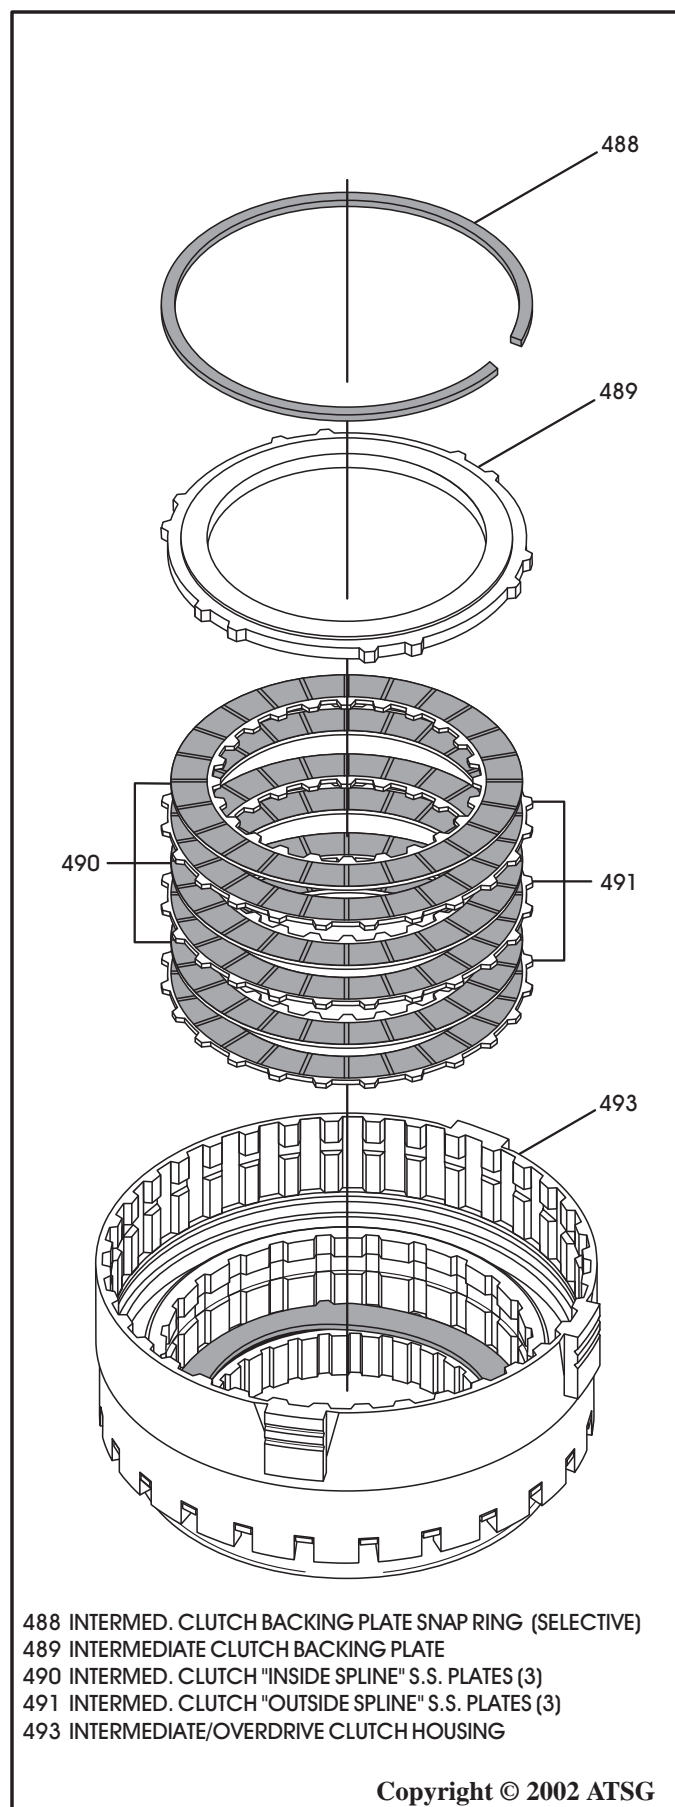

Figure 119
9. Install the intermediate clutch "single sided" plates beginning with an outside spline plate first and alternating with inside spline plates until you have installed 3 of each, as shown in Figure 119.
Note: *Lined side must be installed facing up as shown in Figure 119. Clutch plate amounts may vary by model.*
10. Install the intermediate clutch backing plate, as shown in Figure 119.
11. Install the "Selective" backing plate snap ring as shown in Figure 119, and ensure that snap ring is fully seated against the top of snap ring groove in the housing.